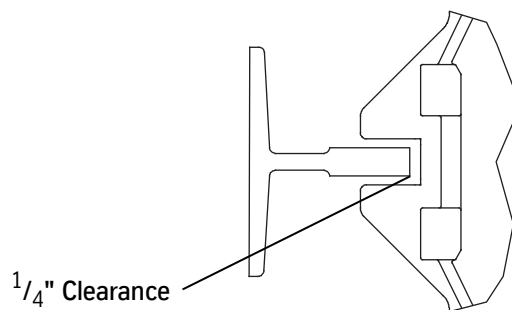

Figure 2 - Rail-to-Guide Throat Clearance
7. Shift the base as required to center the slot on the rail. See Figure 2.